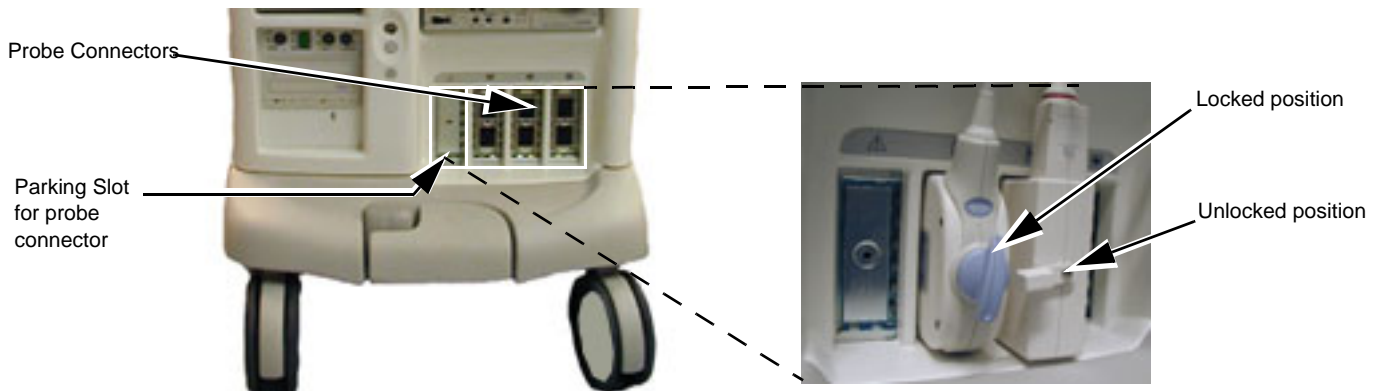

Figure 3-11 Connect Probe
- 4.) Rotate the locking handle to the full vertical position to lock in place. (See Figure 3-11.)
(See Figure 3-11.)